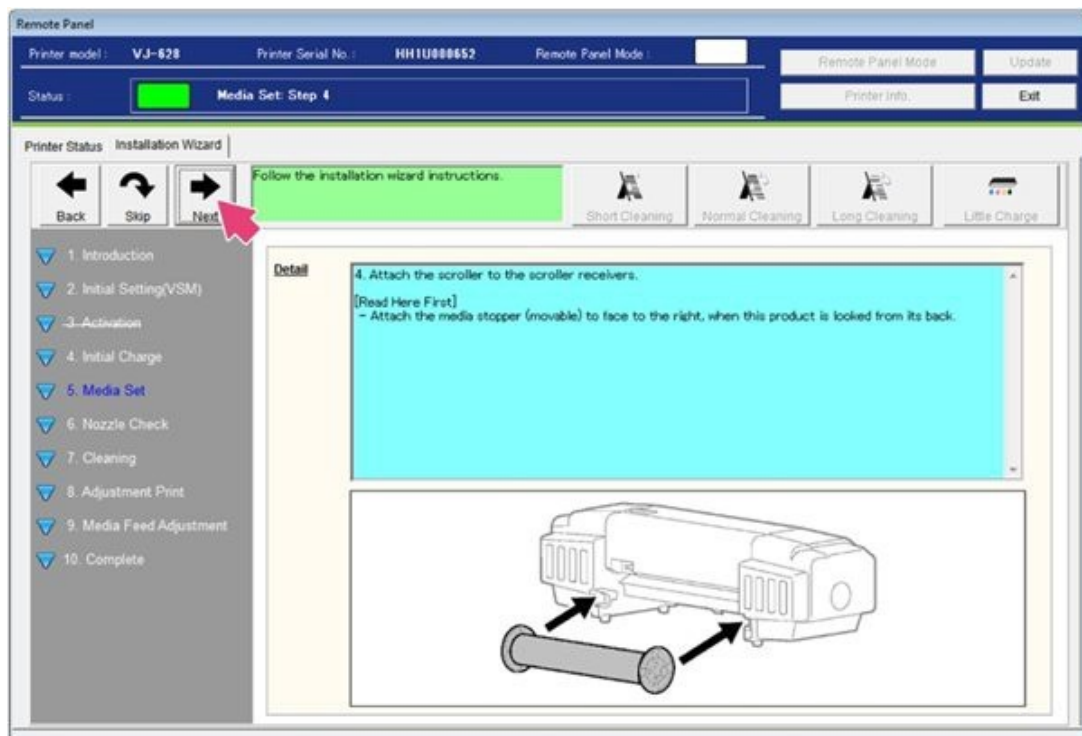

Figure 67
54. Attach the scroller to the scroller receivers; then select **Next**. See Figure 67.